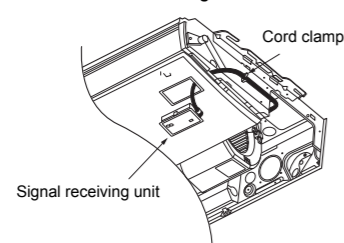

Fig.3
- Fix the lead wire of the signal receiving unit to the cord clamp which fixes the wires of the louver motor. (Fig. 3)